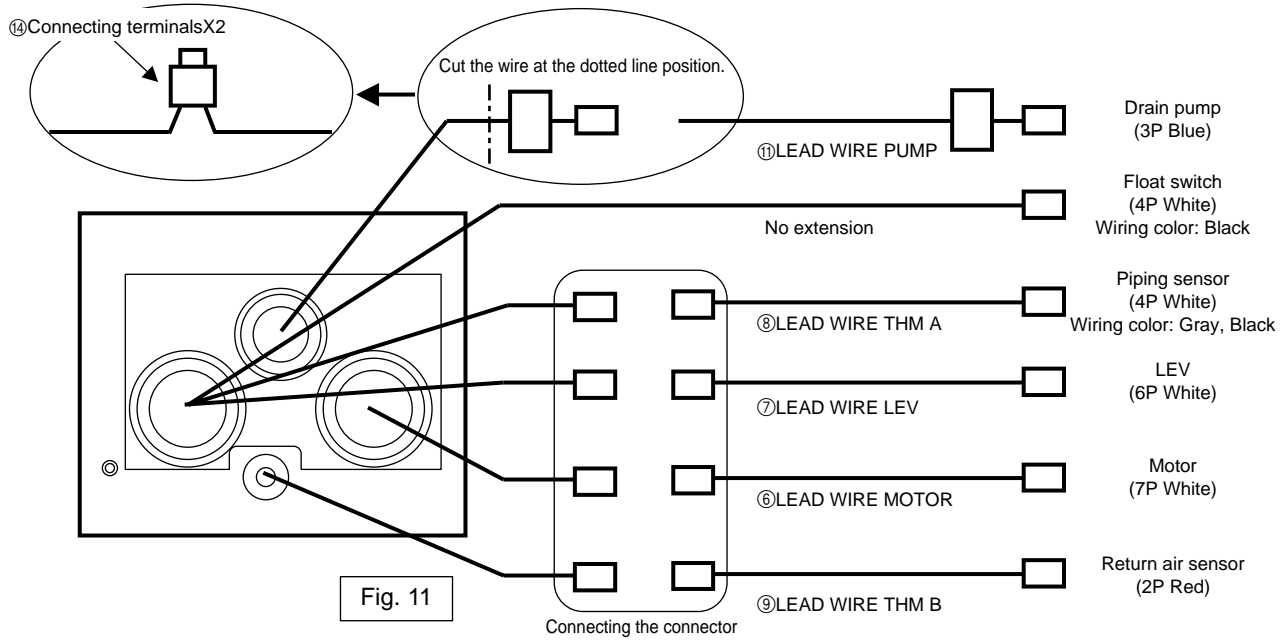

Fig. 11
(1) Connect the each wiring.(Fig. 11)